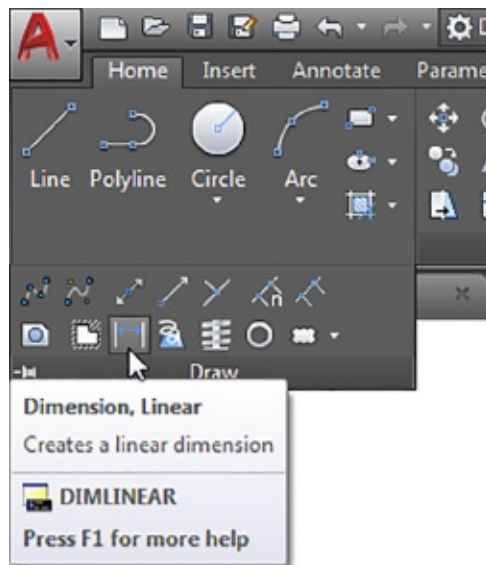

FIGURE 24.8 The tool is in place.
10. Click OK. The next time you check, you'll see the Dimension, Linear tool appear in the expanded Draw panel just to the left of the 3D Polyline tool (see Figure 24.8).